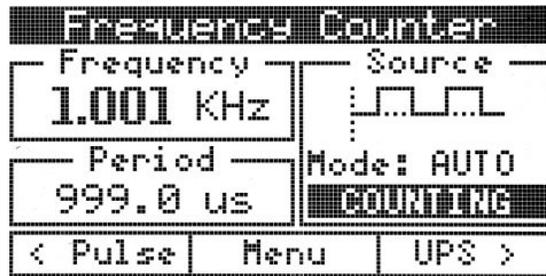

Figure 6
*Figure 6* shows the trainer’s screen displaying the Frequency counter panel.